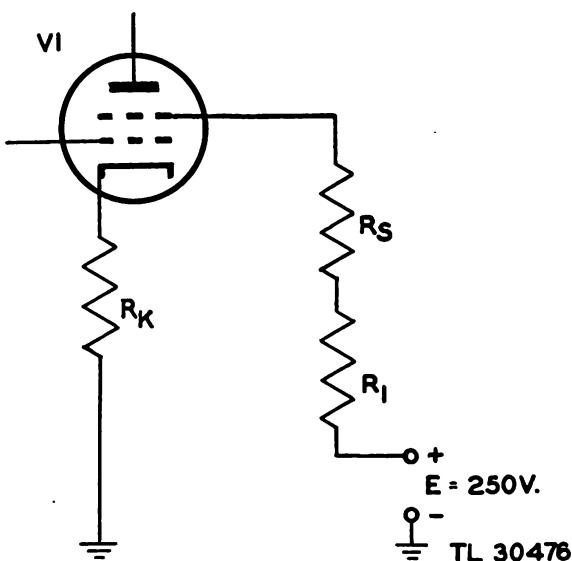

Figure 51. Voltage measurements functional schematic.
d. *Screen Grid Voltages.* Figure 51 illustrates a circuit showing the application of a screen grid circuit. Current flows between the screen and cathode elements inside V1 when the potential on the screen is more positive than the potential on the cathode. This screen circuit is a simple series circuit comprising the resistor R_k , the resistance between the cathode and screen of V1, and the resistors R_s and R_1 . The applied voltage is 250 volts. Voltage drops will appear around this circuit in the same manner as around a plate-cathode circuit. The chief difference will be that the current through any screen-cathode circuit is much smaller than the current through a plate-cathode circuit.